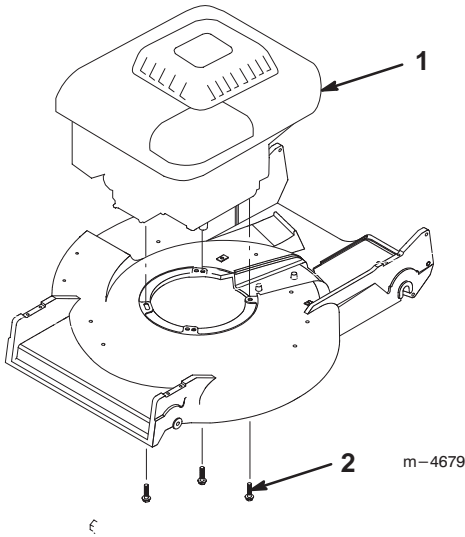

Figure 8
2. Install and tighten the three new engine screws (Fig. 8). Torque the engine screws to 250 to 400 in-lb (28 to 45 N•m).